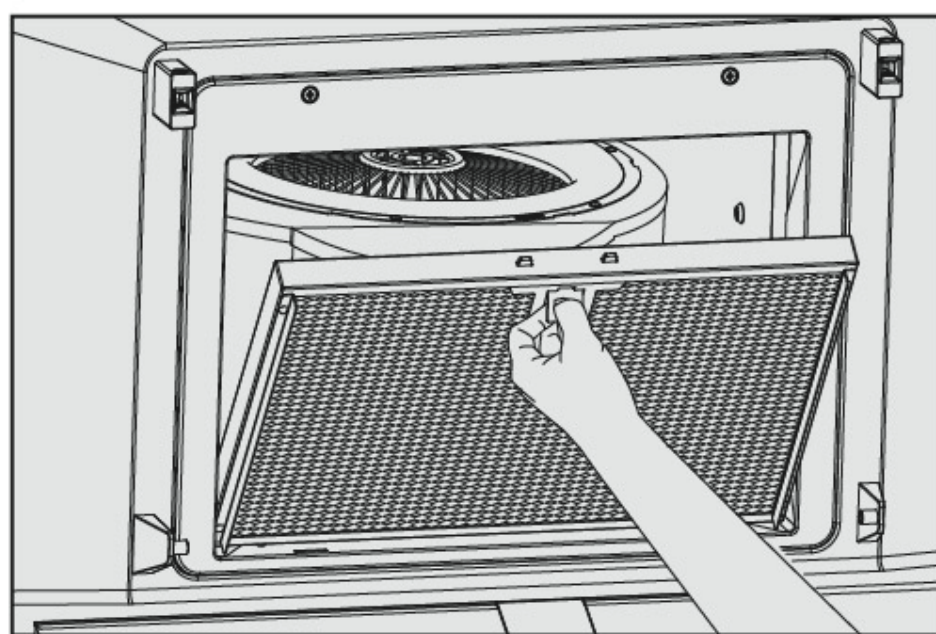

Fig.6
- (2) Install the Carbon filter component according to Figure 6;